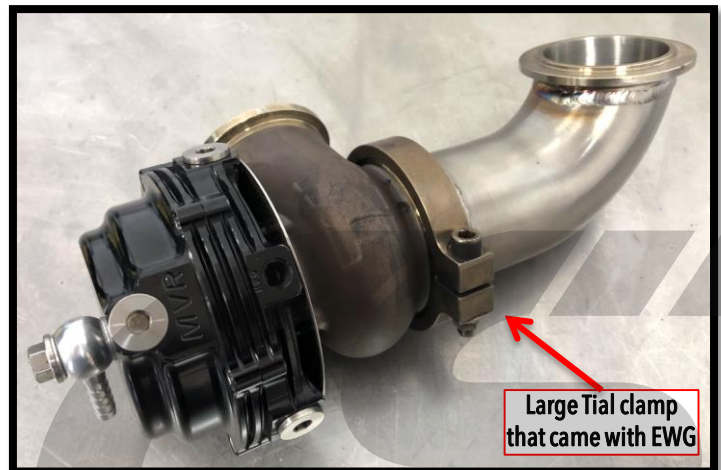

Figure 13b
- a) Install the supplied CorkSport EWG Elbow onto your EWG. Secure using the larger v-band clamp that came with your EWG. Tighten the clamp with a 3/16" Allen wrench and 8mm socket just enough so the components stay connected but are able to rotate freely. Shown in Figure 13b.